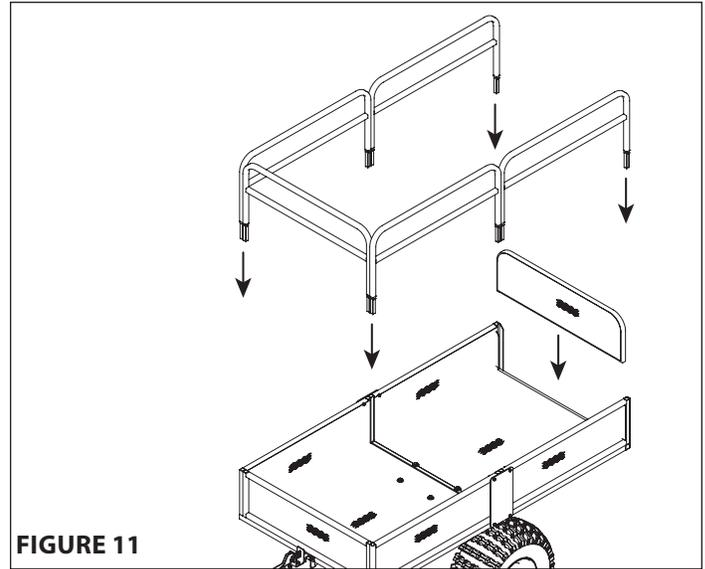

FIGURE 11
15. Place the side racks (300700), front rack (300701), and tailgate (300704) into the spaces provided in the frame. Note, the front rack is slightly narrower than each of the side racks. Lubrication is recommended between each of the sliding surfaces. **SEE FIGURE 11.**